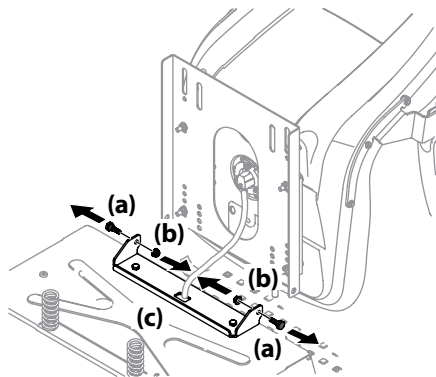

Figure 2-2
2. Remove the two shoulder screws (a) and flange lock nuts (b) in the seat bracket (c) as shown in Figure 2-2.